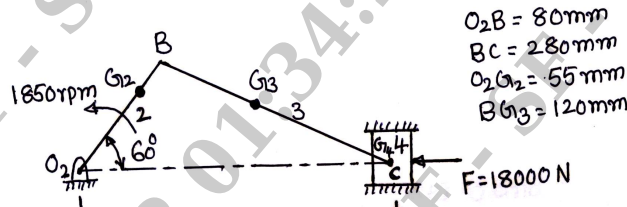

Fig.Q2(b)
- b. A slider crank mechanism of a single cylinder diesel engine shown in Fig.Q2(b) is subjected to a gas force of 18000 N. The crank rotates counter clockwise at a constant speed of 1850 rpm. Determine (i) Force F_{14} and F_{12} and the torque T_2 exerted by the crank shaft on the crank for equilibrium. (ii) Magnitude and direction of the shaking force and its location from point O_2 . Take $m_2 = 2.5$ kg, $m_3 = 3.7$ kg, $m_4 = 3$ kg, $I_2 = 0.0055$ kg-m², $I_3 = 0.041$ kg-m².